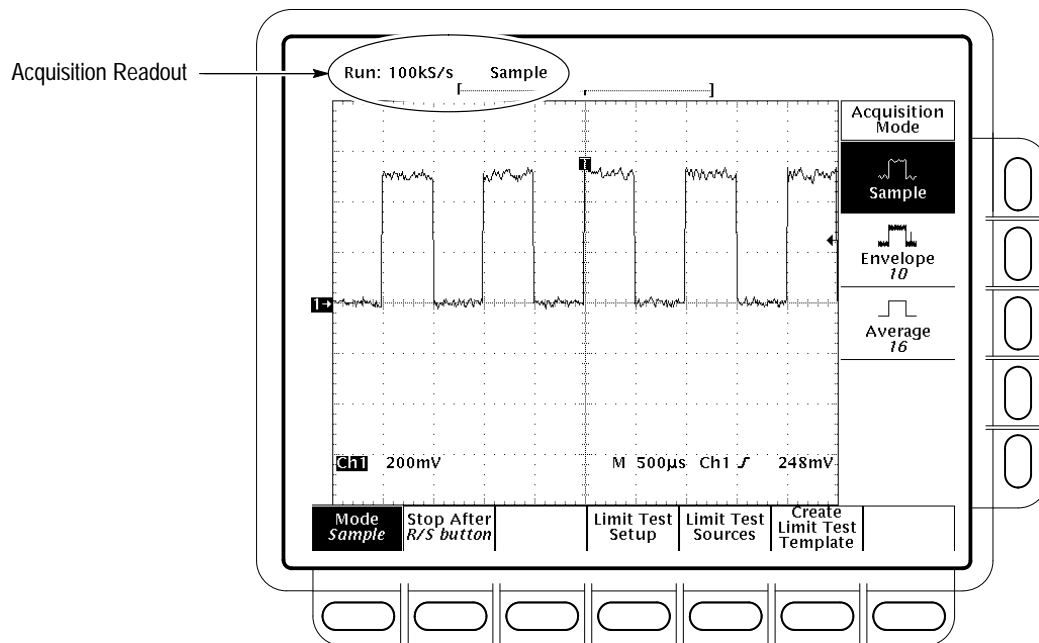

Figure 3–14: Acquisition Menu and Readout
To determine the acquisition sampling rate, the acquisition state (running or stopped), and the acquisition mode, check the Acquisition readout at the top of the display. (See Figure 3–14.) The state “Run:” shows the sample rate and acquisition mode. The state “Stop:” shows the number of acquisitions acquired since the last stop or major change.
1. Press **SHIFT ACQUIRE MENU → Mode** (main). (See Figure 3–14.)